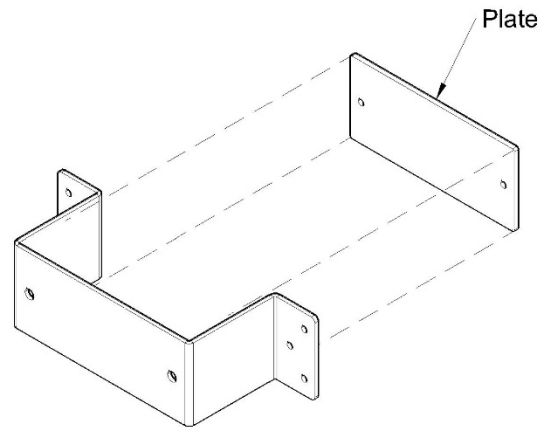

Figure 7
- 9. Remove the Plate as shown in Figure 7.